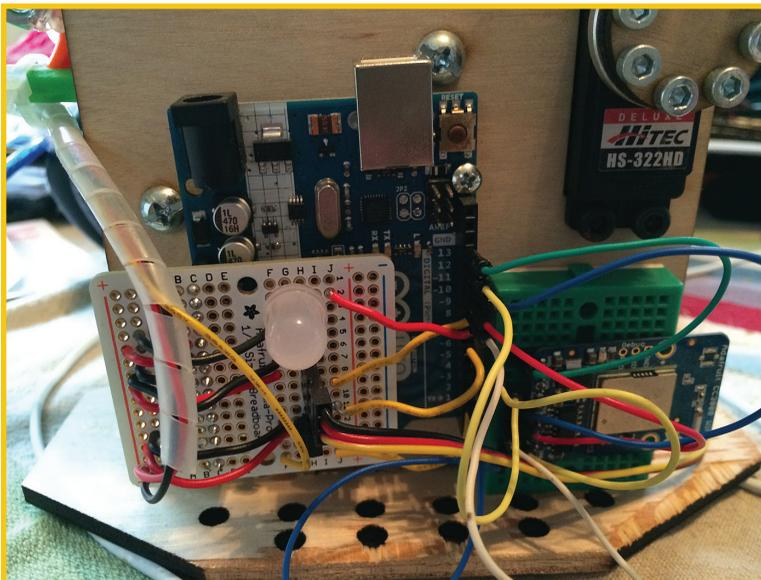

FIGURE 13.12 Connect the CC3000's pins to the Arduino.
STEP 4 Wire up the individual pins of the CC3000: GND goes to GND on the Arduino, CLK plugs into pin 13, MISO into pin 12, MOSI into pin 11, CS into pin 10, VBEN into pin 5, and IRQ into pin 3 (see Figure 13.12).